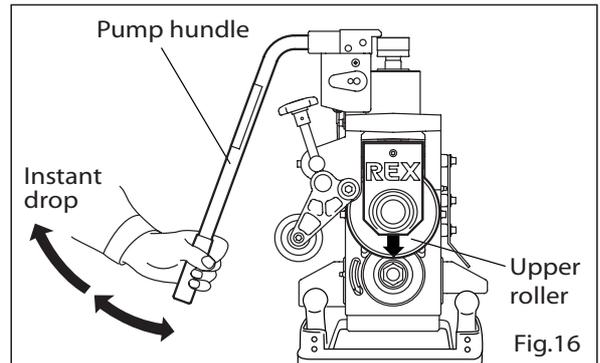

Fig.16
- 2) Lift the pump handle firmly in one go and the upper roller will be lowered onto the pipe. (Instant drop) (Fig. 16)
- 3) Keep lifting the pump handle up and down until you have finished processing the pipe. The upper roller will gradually press deeper into the pipe to create a groove. (Fig. 16)